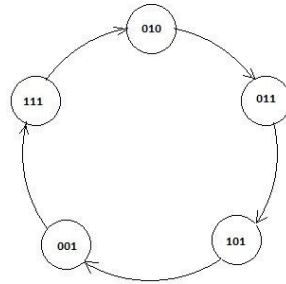

Fig.4: State Diagram of the Mod-5 counter stated in the problem
3.2 State Diagram: State diagram of the counter is drawn in Fig.4. The counter as such has no input and output other than flip-flop output states.